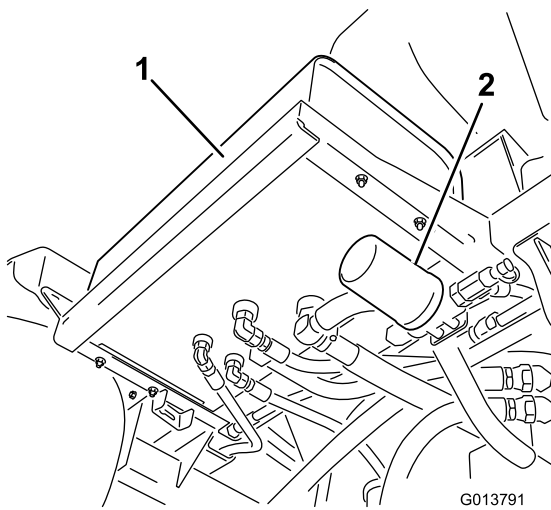
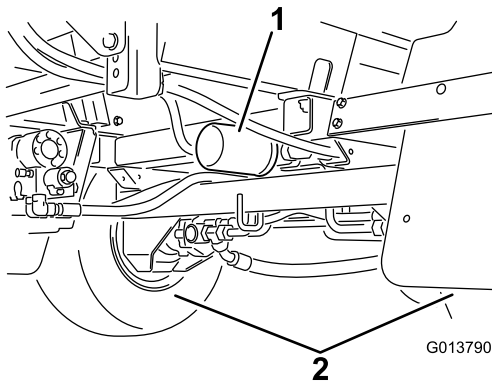

Figure 94
Figure 95
2. Locate the 2 hydraulic filters on the machine (Figure 94 and Figure 95).